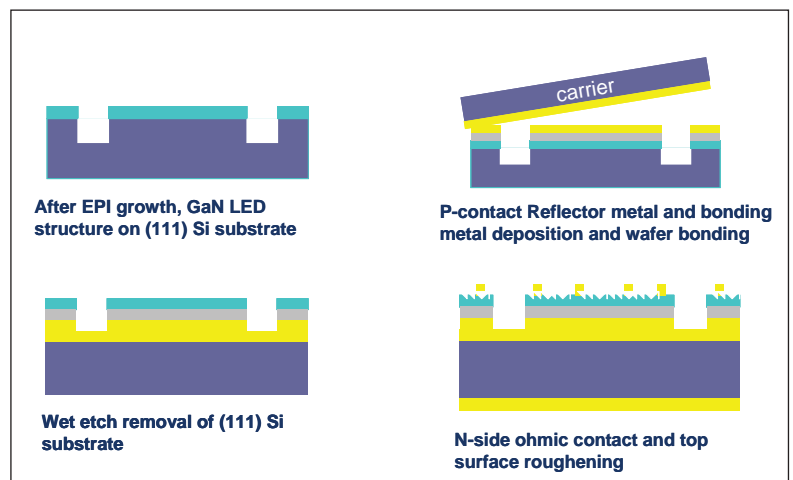

Figure 5: Lattice Power's silicon based thin film process
Silicon absorbs visible light. So in order to have efficient LED operation, the silicon substrate must be liberated from the device, a thin-film, vertical structure. Figure 5 illustrates the silicon-based thin film process. GaN is grown on a prepared, patterned (111) silicon substrate. A metal contact is deposited on the p-side of the GaN film. This acts as a light reflector adding further benefits to the device.